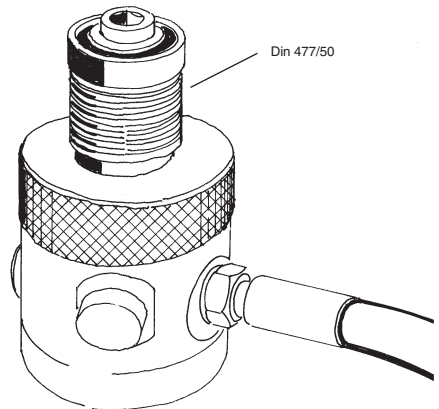

Fig. 1c
- Pression maximum 300 bar (raccord DIN 477/50) Fig. 1c.